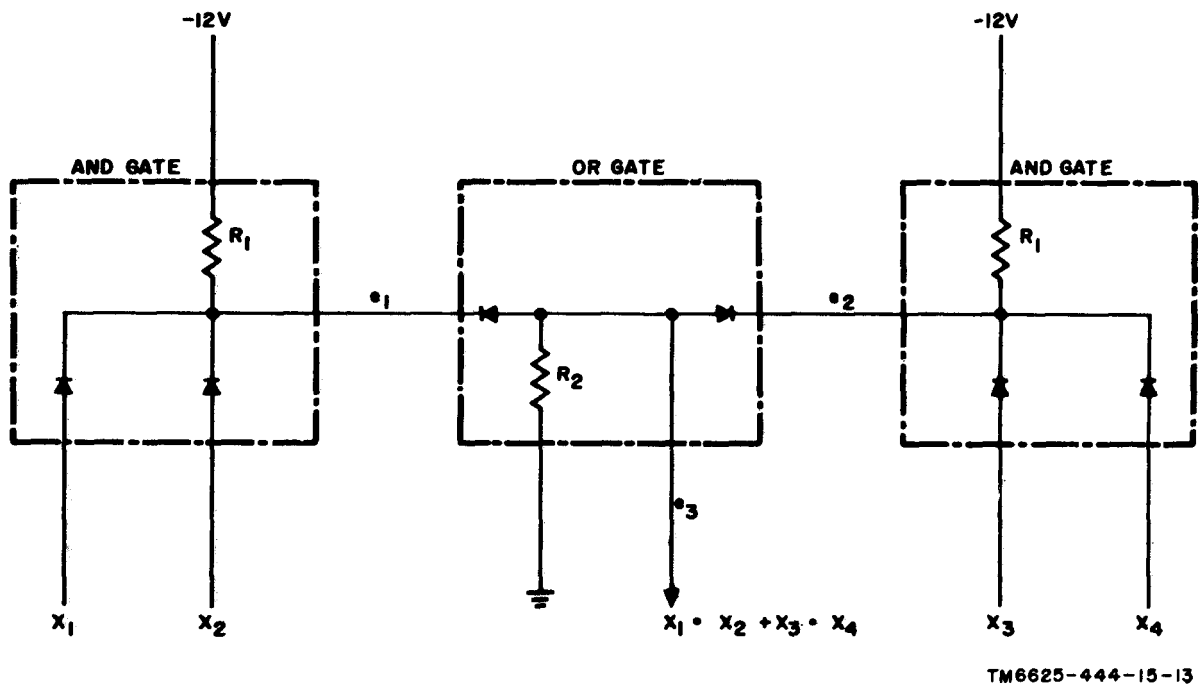
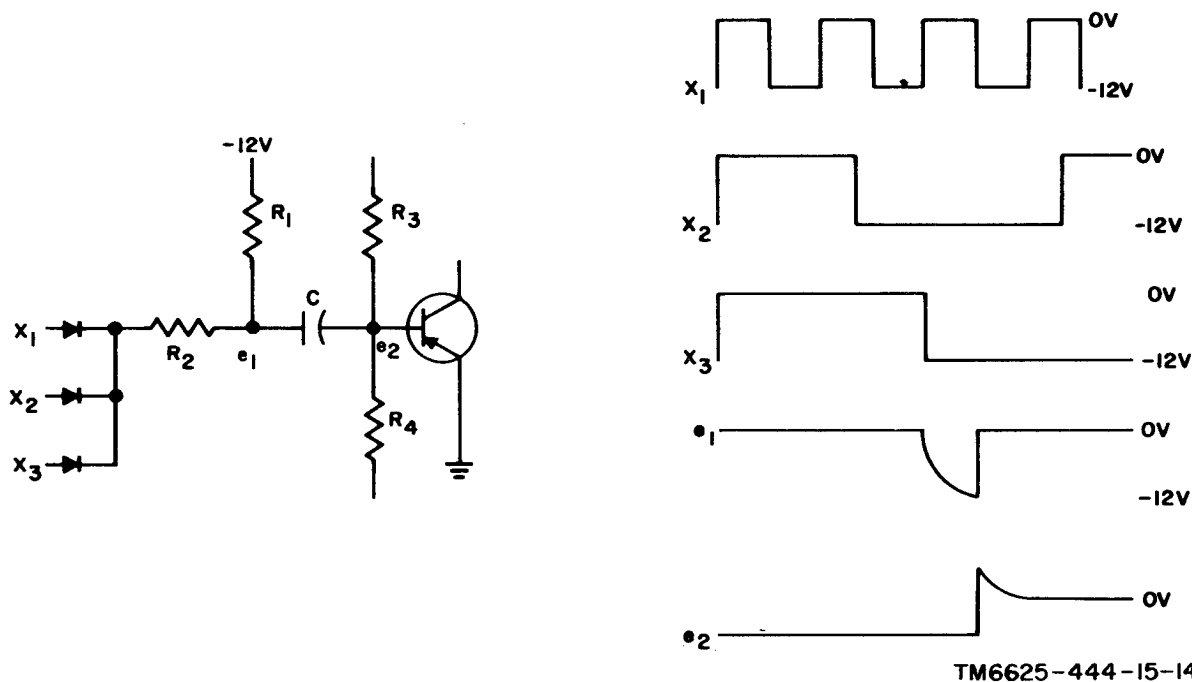
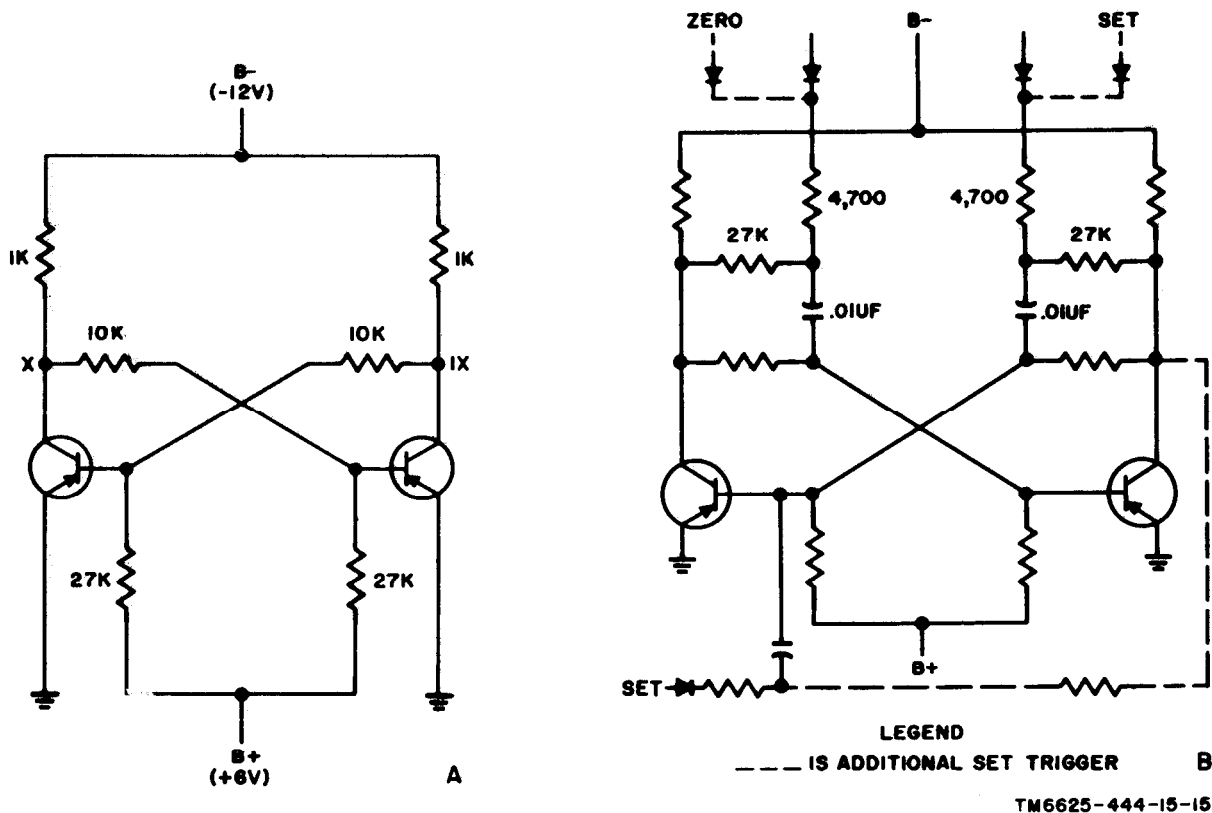

Figure 5-2. AND-OR gates.
Figure 5-3. Flip-flop trigger circuits.
Figure 5-4. A board, block diagram.
a. Figure 5-2 is an example of AND-OR gates. If X_1 or X_2 (or both) are at ground potential, e_1 is at ground. If both X_1 and X_2 go negative, e_1 is pulled negative by R_1 ; therefore, when both X_1 and X_2 are negative, e_1 is negative. The same applies to e_2 with respect to X_3 and X_4 . The ohmic value of R_2 is several times that of R_1 . If both e_1 and e_2 are at ground, e_3 is also at ground, but if either e_1 or e_2 goes negative, e_3 goes negative. The output of the circuit in figure 5-4 may be expressed: $X_1 + X_2 + X_3 + X_4$. This means that the output is negative if X_1 and X_2 are negative or X_3 and X_4 are negative.
b. Figure 5-3 is a sample flip-flop trigger circuit used in the AN/GSM-64. X_1 , X_2 , and X_3 are fed into an AND gate. When they all go negative, e_1 is pulled negative by R_1 . Since R_1 is very large compared to R_3 and R_4 in parallel, the current through C_1 is small and the voltage at e_2 remains near zero. When X_1 , X_2 , or X_3 goes to ground, a surge of current limited by R_1 (R_2 is small compared to R_3 and R_4) flows through C_1 , causing e_2 to go positive. The PNP transistor is turned off when e_2 goes positive with respect to ground.
c. Figure 5-4 is a schematic diagram of a typical logic flip-flop used in the AN/GSM-64. The flip-flop has two outputs: X and \bar{X} . If X is negative, \bar{X} is 0, and if \bar{X} is 0, X is negative. Figure 5-4 illustrates the flip-flop with its trigger circuits. The 27,000-ohm resistors connected to the collectors serve the same function as R_1 in figure 5-3. The dotted circuit at the bottom of